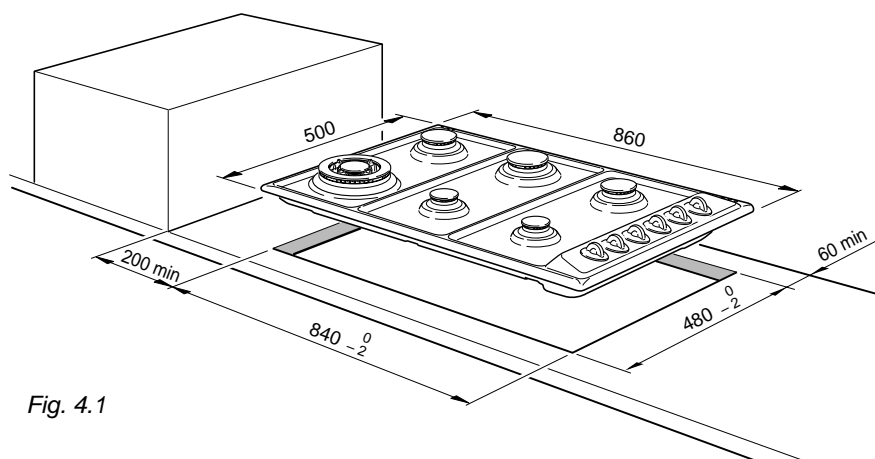

Fig. 4.1
In order to install the cooker top into the kitchen fixture, a hole with the dimensions shown in fig. 4.1 (for cooker top P90) o 4.2 (for cooker top P60) has to be made, bearing in mind the following:
- ✓ the cooker top must be kept no less than 200 mm away from any side wall (figs. 4.1 - 4.2).